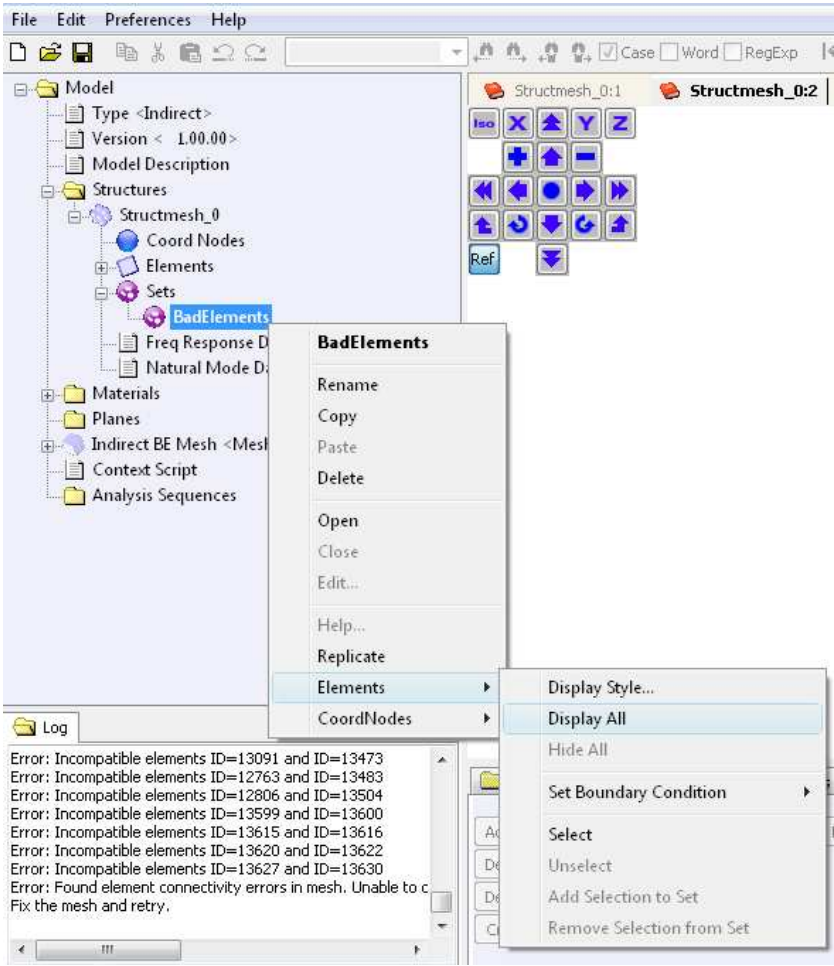

Figure 5.22: Display Set of Bad Elements.
- Now display only Bad Elements to start fixing them. Go to **Structures** → *<Structure Mesh Name>* → **Sets** → *<Bad Elements Set>* and right-click to select **Elements** → **Display All**. (Figure 5.22)